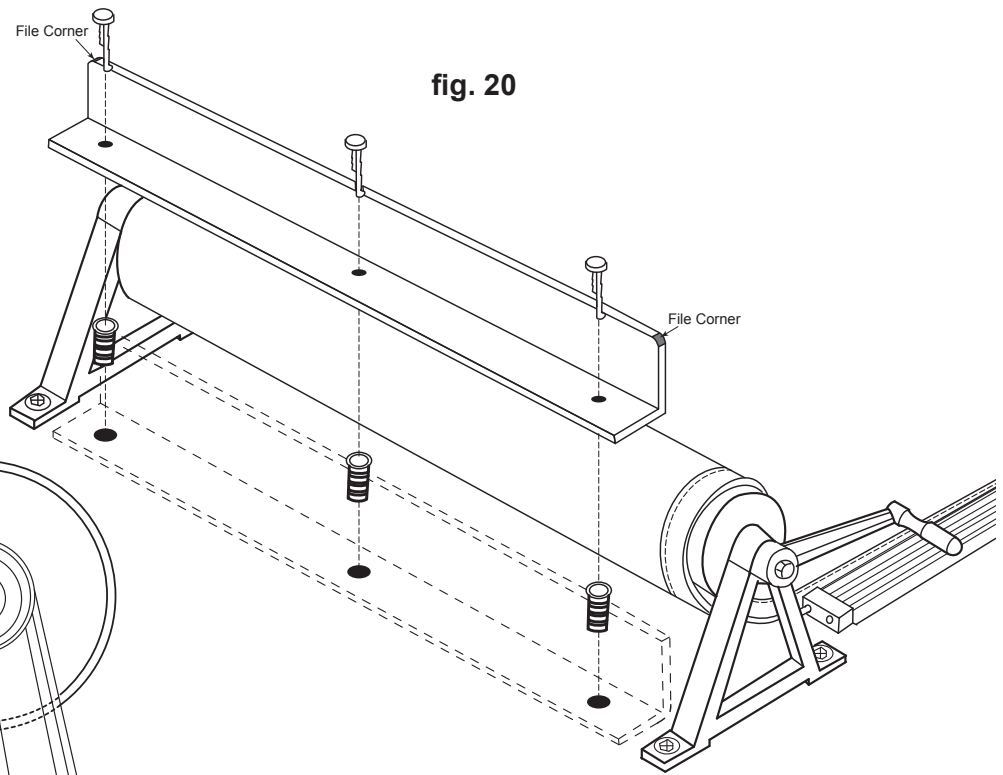

fig. 20
8.3 Install the roller opening barricade. (fig. 20 & 21)